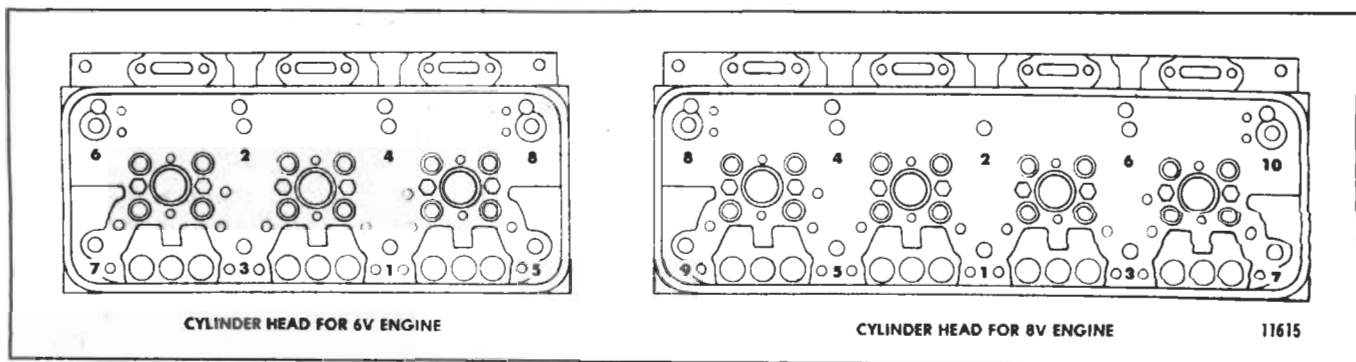

Fig. 11 - Cylinder Head Bolt Tightening Sequence
8. Tighten the 11/16"-11 bolts to 250-260 lb-ft (339-352 Nm) torque, in increments of 50 lb-ft (68 Nm) torque, in the sequence shown in Fig. 11. Repeat the tightening sequence at least once, because the first bolts tightened in the sequence tend to lose significant clamp load during tightening of the remaining bolts. Apply a steady pressure for two or three seconds at the prescribed torque to allow the bolts to turn while the gaskets yield to their final designed thickness. For 16V engines, follow the sequence shown for an 8V engine. *Begin on the cam follower side of the head to take up tension in the push rod springs.* Tighten the bolts to the high side of the torque specification, but do not exceed the limit or the bolts may stretch beyond their elastic limits. Attempting to tighten the bolts in one step may result in trouble and consequent loss of time in diagnosis and correction of difficulties, such as compression leaks, when the engine is put into operation.